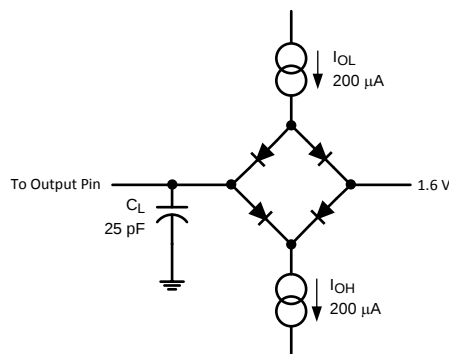

Figure 2. Timing Test Circuit
- (1) Measured with the timing test circuit shown in Figure 2 and defined as the time taken by the output signal to cross 1.0V.
(2) Measured with the timing test circuit shown in Figure 2 and defined as the time taken by the output signal to cross 1.0V or 2.0V.
(3) t_{DIS} is derived from the time taken by the outputs to change by 0.5V with the timing test circuit shown in Figure 2. The measured number is then adjusted to remove the effects of charging or discharging the output capacitance. This means that t_{DIS} is the true bus relinquish time, independent of the bus loading.